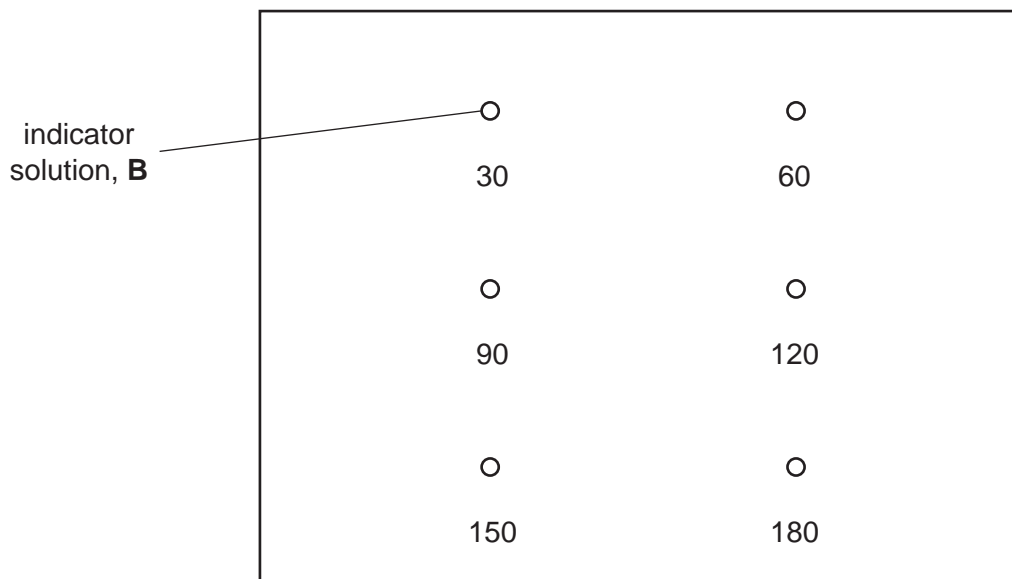

Fig. 1.1
2. Wipe the tile clean with a damp paper towel and then dry the tile. Label the tile as shown in Fig. 1.1. The numbers indicate the sampling times in seconds. Put two drops of indicator solution, **B**, on the tile above each sampling time, as shown in Fig. 1.1.
Label the tile again as shown in Fig. 1.1.